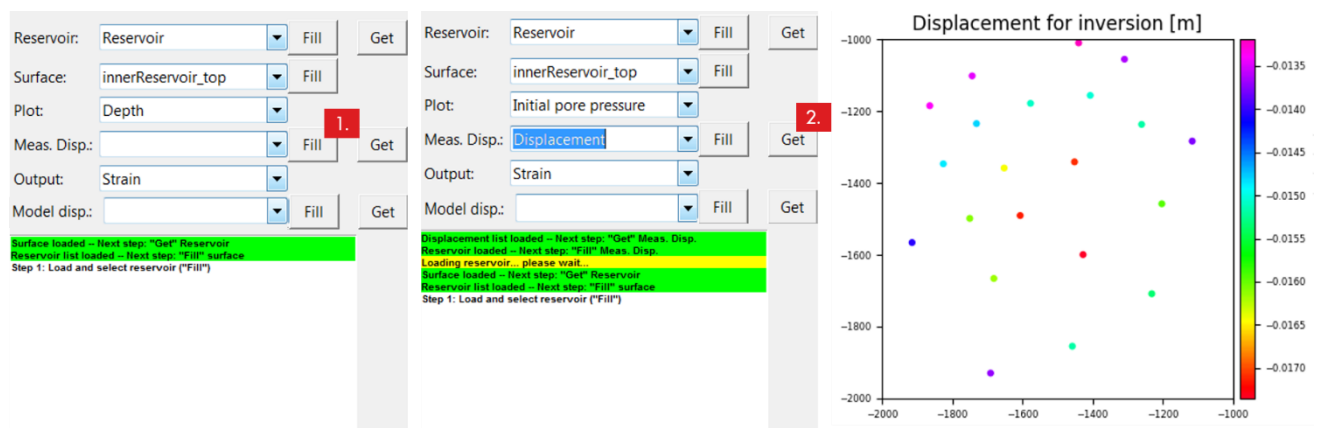

Figure 11 Loading displacement data: 1) Fill the list of measured displacement datasets; 2) "Get" (i.e. load) the selected displacement data
- iv. Select the relevant measured displacement step: **Fill – select object – get** (**steps 1,2** in Figure 11). Measured displacement as a function of x, y is plotted in the IT.